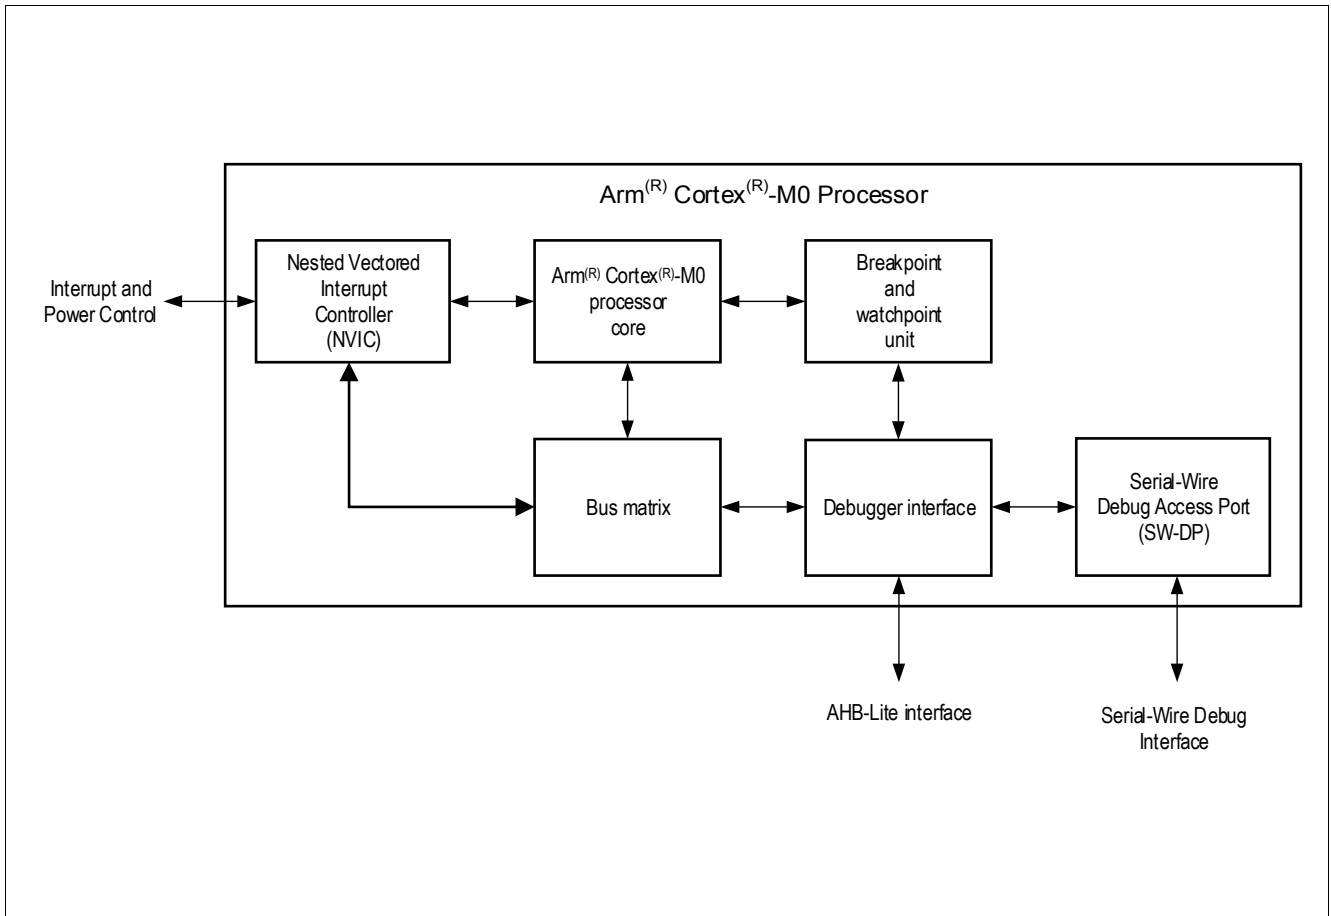

Figure 15 Cortex®-M0 Block Diagram
**Figure 15** shows the functional blocks of the Cortex®-M0.